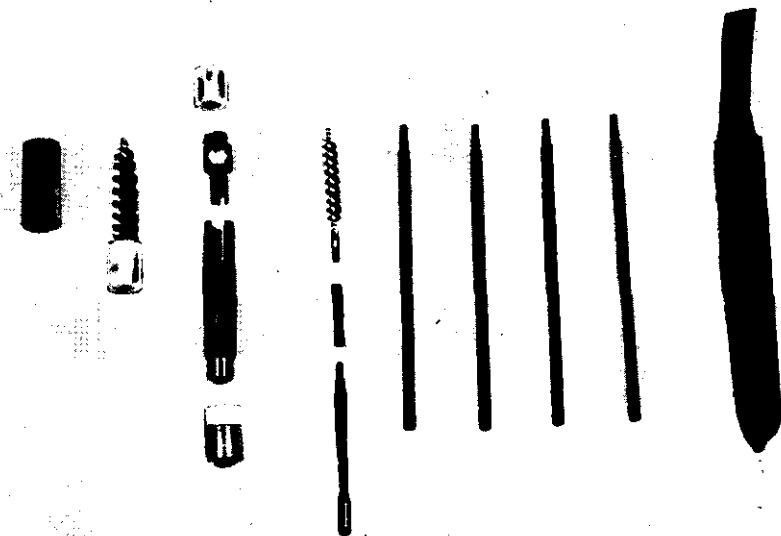

Figure 47. Maintenance equipment.
- (1) A complete set of maintenance equipment (fig. 47) is composed of—
- (d) The grease container (fig. 51) is also a plastic unit. It consists of a standard grease cup with a cap. One end of the grease cup cap screws onto the grease cup. The other end fits over the end of the handle of the combination tool (fig. 47) for storage. Inside the cap is a bent stem (applicator) that is used to apply the grease. The stem is bent to make it easier to